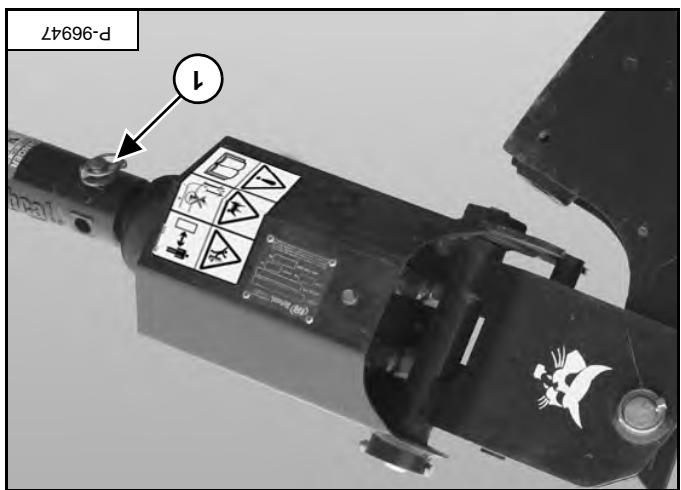

Figure 145
Install the auger bit on the drive shaft. Install the washer and retaining clip, and the drive pin (item 1) [Figure 145] through the auger bit
Install the auger bit on the drive shaft [Figure 145].